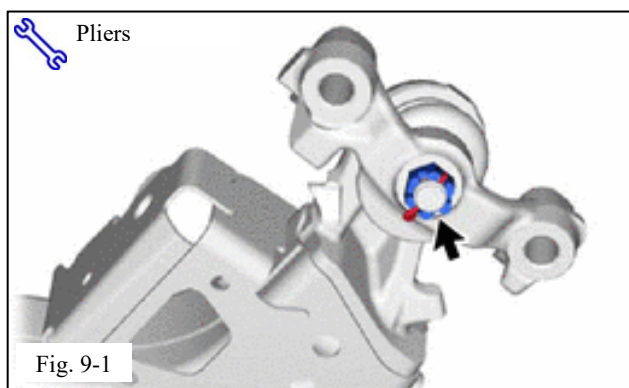

Fig. 9-1
(1) Remove and discard the cotter pin and castle nut (Fig. 9-1).